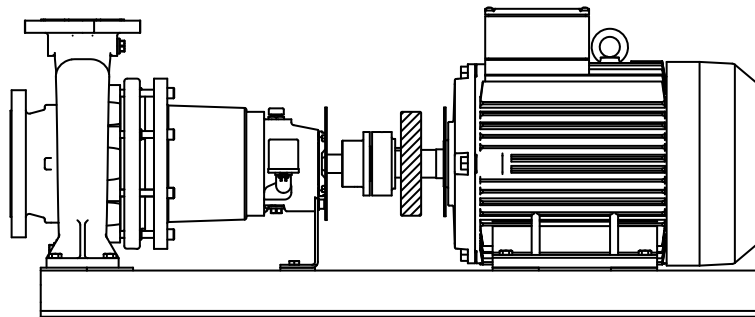

Figure 3: Fitting the flywheel.
**If a flywheel forms part of the delivery this will have to be fitted to the shaft of the electric motor in order to prevent the magnetic coupling from slipping during start-up. See figure 3.**